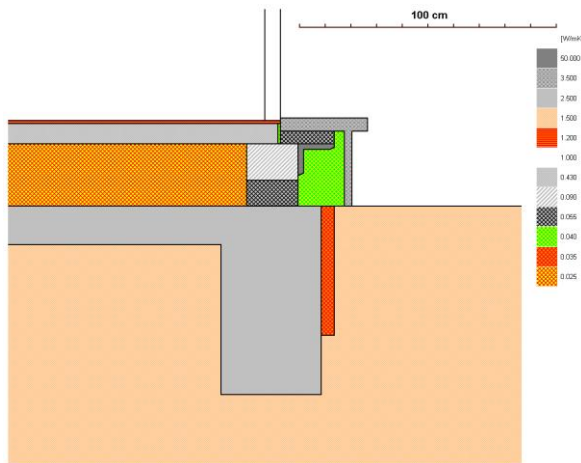
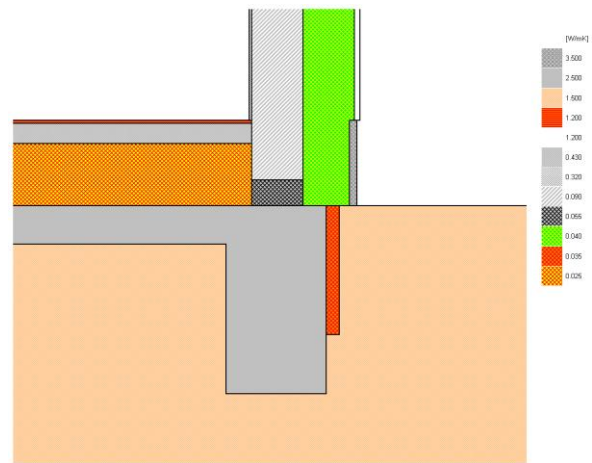
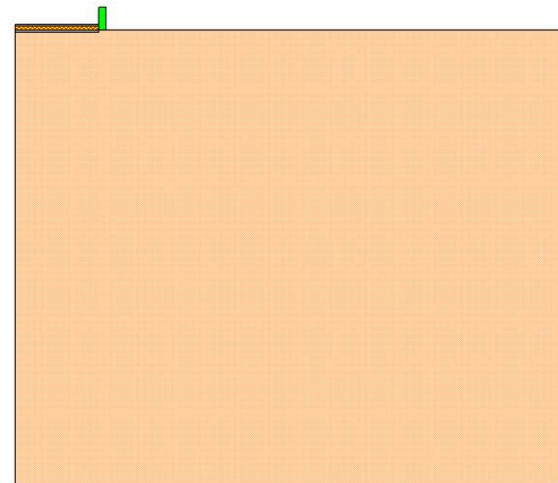
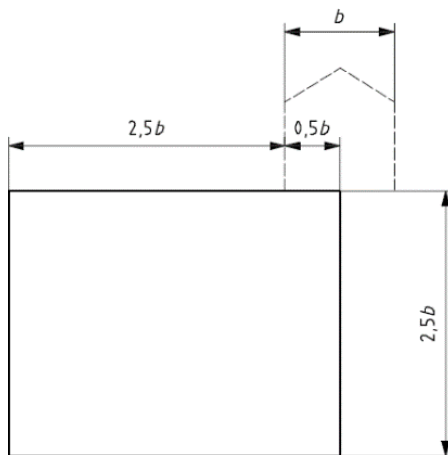

Figure 1: ground floor – window sill connection
Figure 2: ground floor wall connection
Figure 5: detail used to calculate U_{floor}
Figure 6: 2D geometrical modelling rules according to ISO 10211
A ground floor – window sill construction detail is shown in Figure 1. The 2 vertical lines at the top show the window (or door) frame connection position. The thermal interaction between the window frame and the floor is not considered and therefore the window frame is not drawn in detail. In the direction perpendicular to the section, the window is connected to a wall. The ground floor wall connection is shown in Figure 2. As shown further, the knowledge of this second construction detail is of importance for the correct calculation of the linear thermal transmittance of the first detail.
- The 2D geometrical modelling rules according to EN 10211 are used. See Figure 5 and Figure 6.
In order to calculate the linear thermal transmittance of the floor wall connection a numerical simulation of the detail as shown in Figure 2 is required, again using the modelling rules as shown in Figure 6.
In order to calculate the linear thermal transmittance of the floor window connection a numerical simulation of the detail as shown in Figure 1 is required, again using the modelling rules as shown in Figure 6.